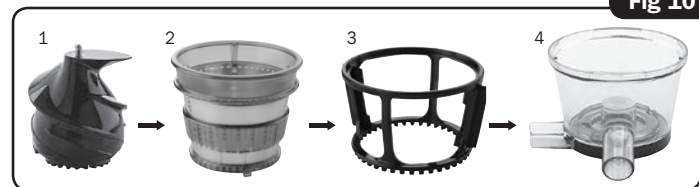

Fig 10
3. Disassemble the parts from the bowl in the order show by the diagram. (See Fig 10).